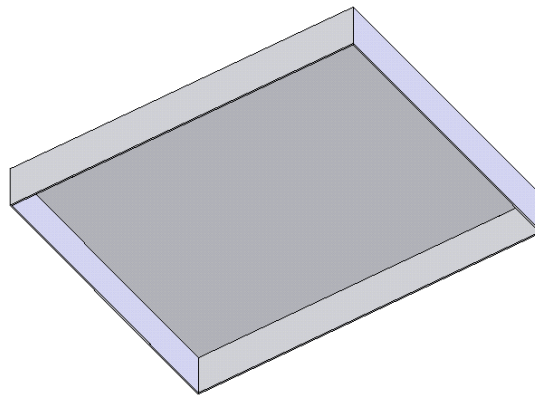

Figure 16-160 Model after shelling
- Shell the base feature, refer to Figure 16-160.
The model after shelling is displayed in Figure 16-160.